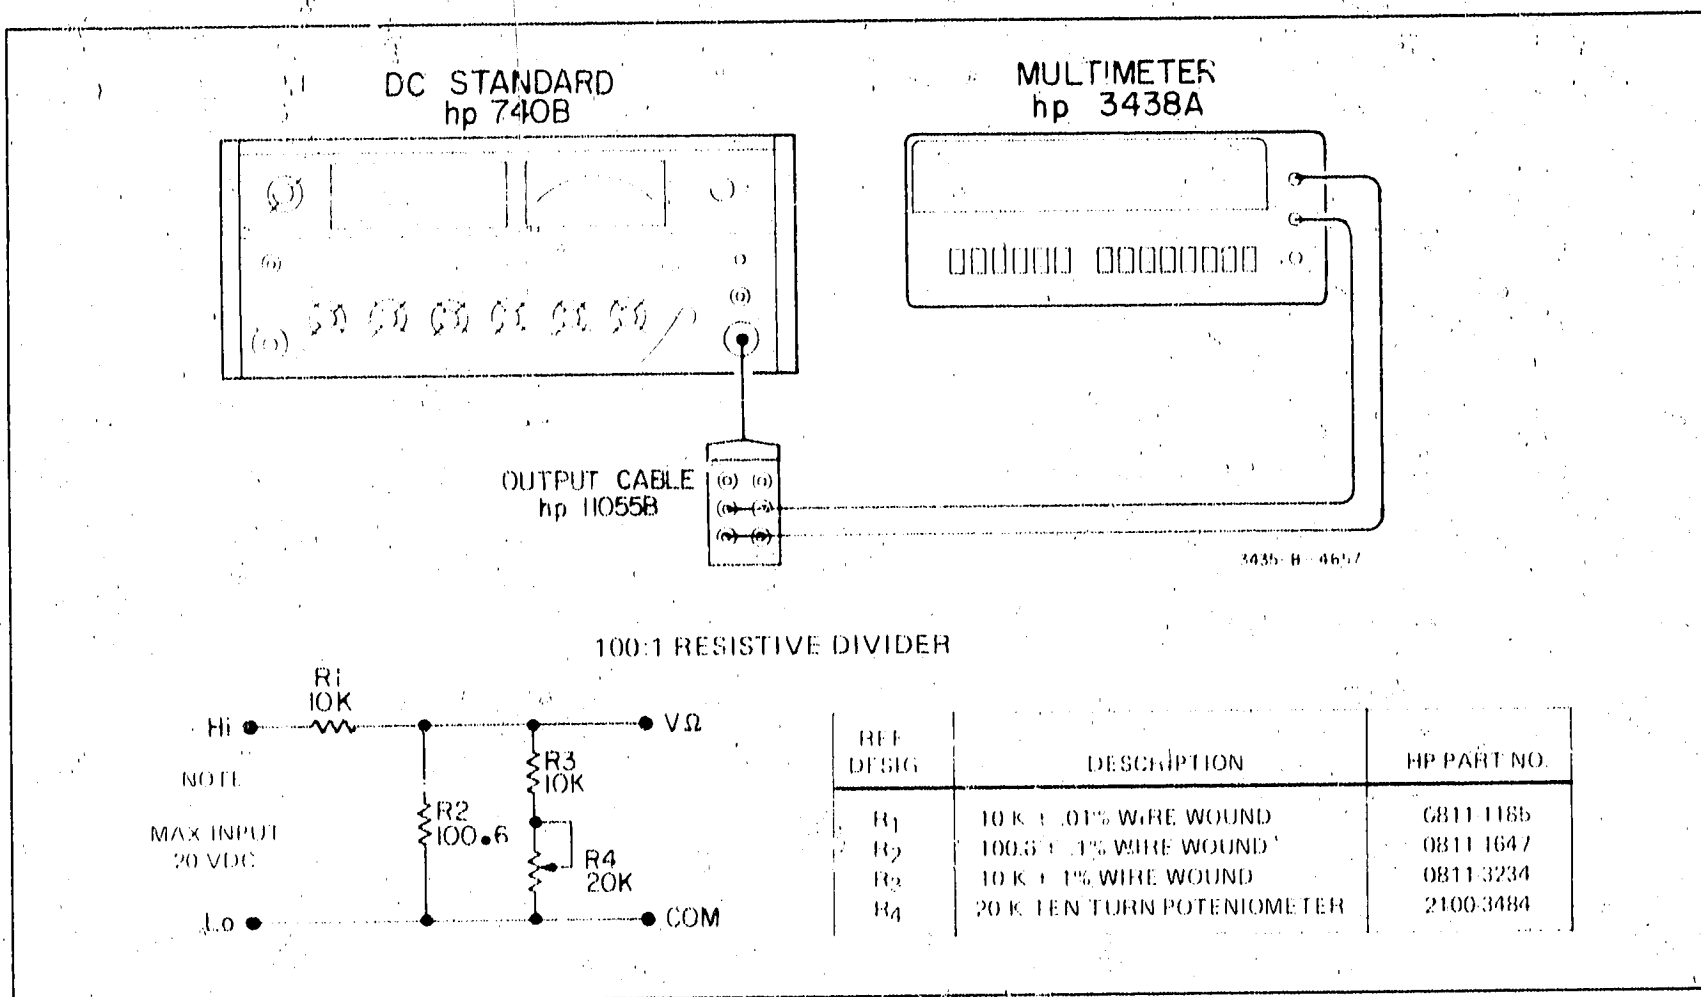

Figure 4-1. DC Voltmeter Accuracy Test.
- c. Connect the DC Standard to the VΩ and COM terminals as shown in Figure 4-1.